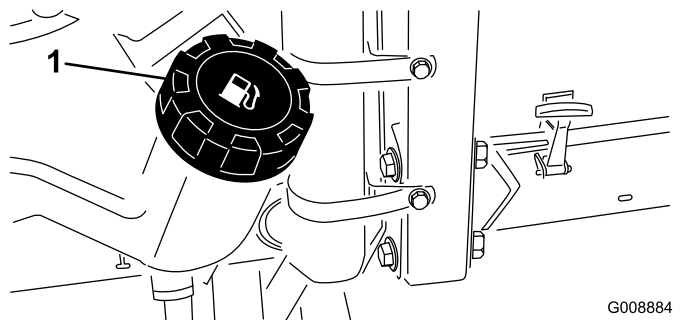

Figure 29
2. Clean the area around the fuel-tank cap (Figure 29).